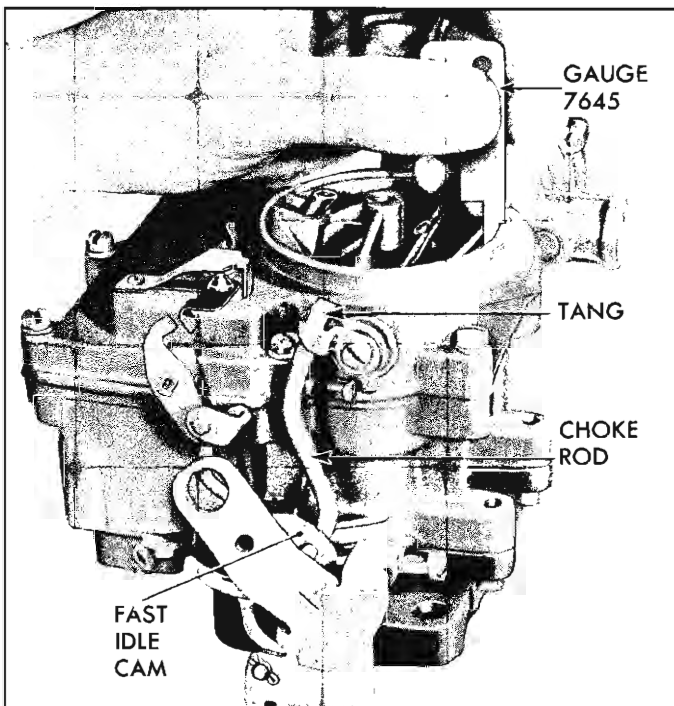

Fig. 15—Checking Relationship of Fast Idle Cam and Choke
- **Fast Idle Cam and Choke Relationship**—Place throttle stop screw on next to highest step of fast idle cam, then position small end of gauge X-7645 between choke valve and carburetor (fig. 15). The gauge should fit snugly in this position. If adjustment is needed, bend counterweight tang as required.